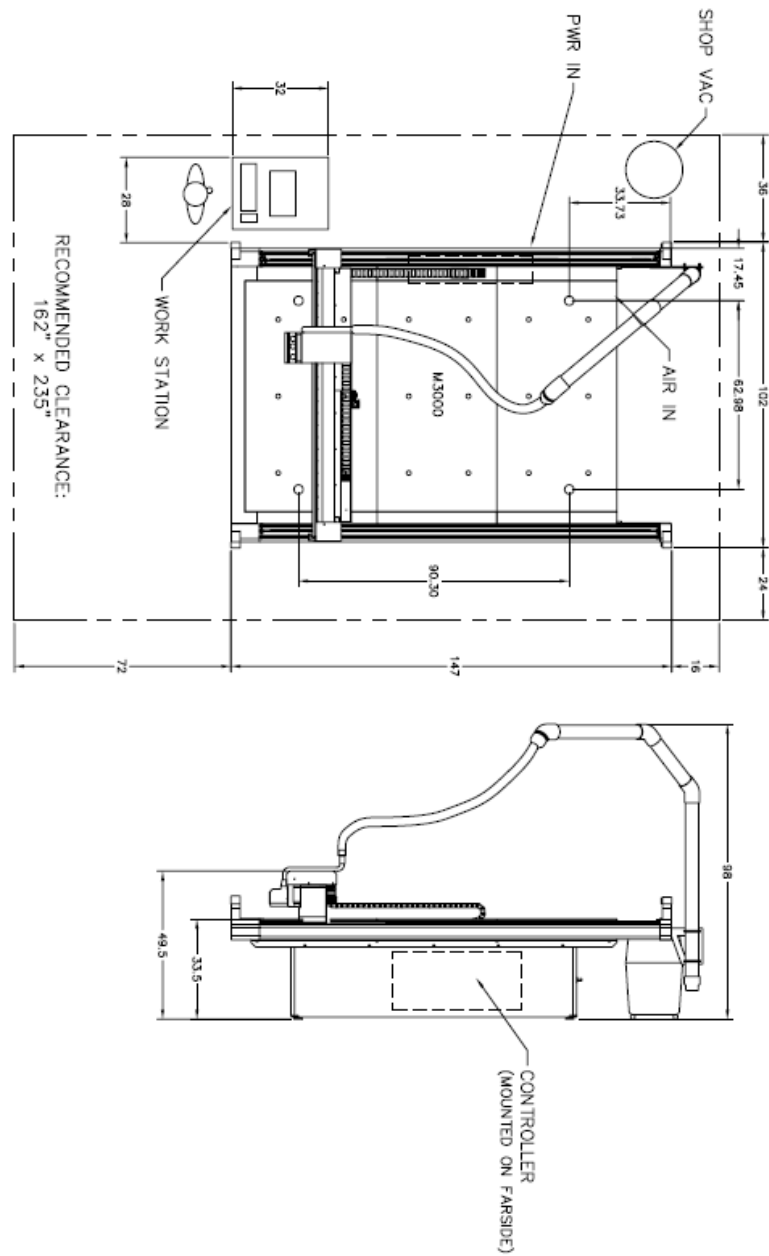

Figure 47
3. Adjust the lubricator by turning the clear knob counterclockwise for faster dripping and clockwise for slower dripping. See Figure 47.